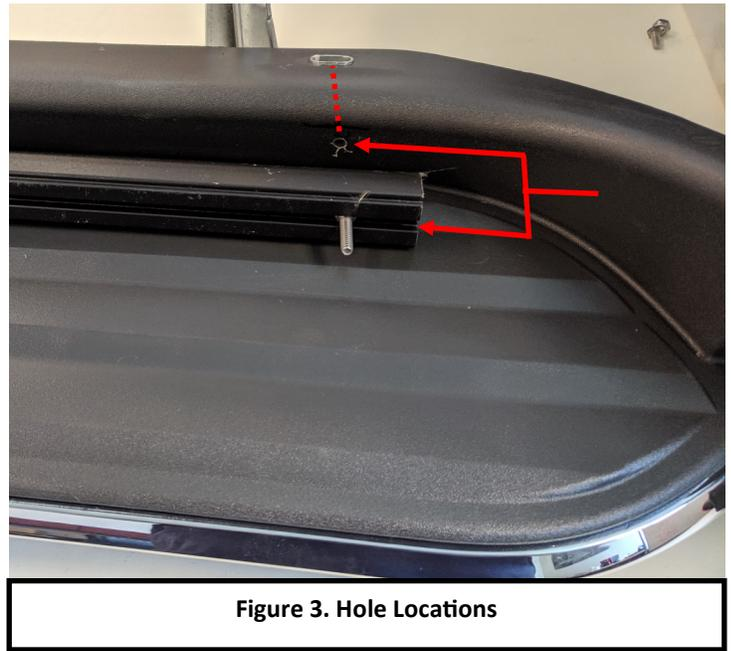

Figure 3. Hole Locations
1. Set the extrusion in the recess of the running boards and use the existing bolt hole locations to mark and drill holes using a 7/32" drill bit that will line up with the channel in the extrusion. This can be seen in **Figure 3**.